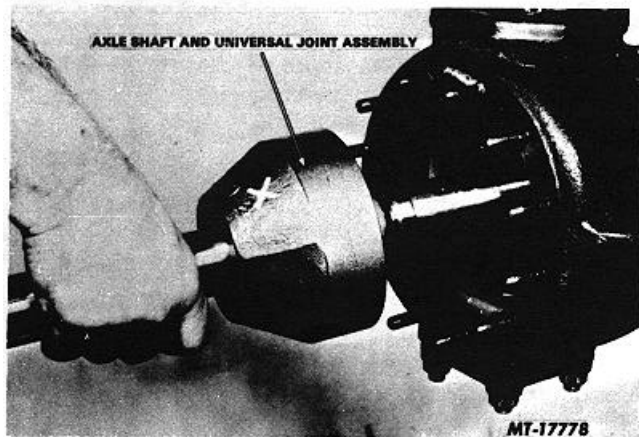

Fig. 2 Removing Axle Shaft and Universal Joint Assembly
2. Remove axle shaft and universal joint assembly from axle housing (Fig. 2).